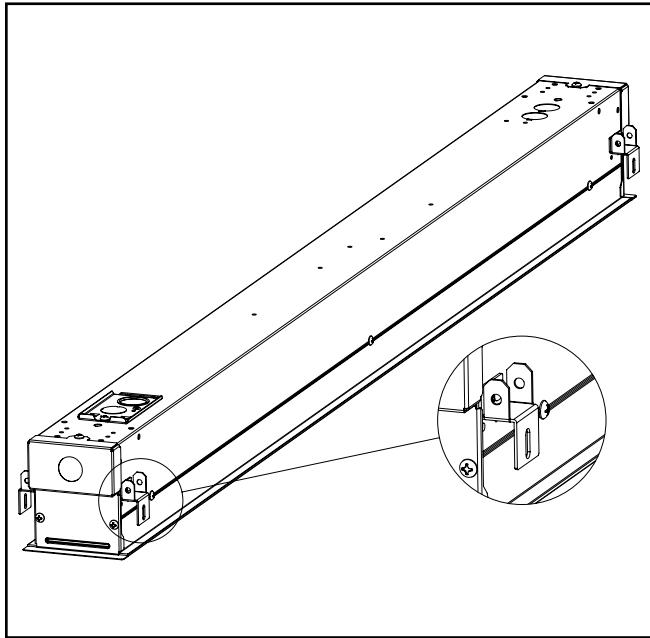

Figure 1.
1. Begin by removing the 4 grid clips at the corners of the fixture. See Figure 1.